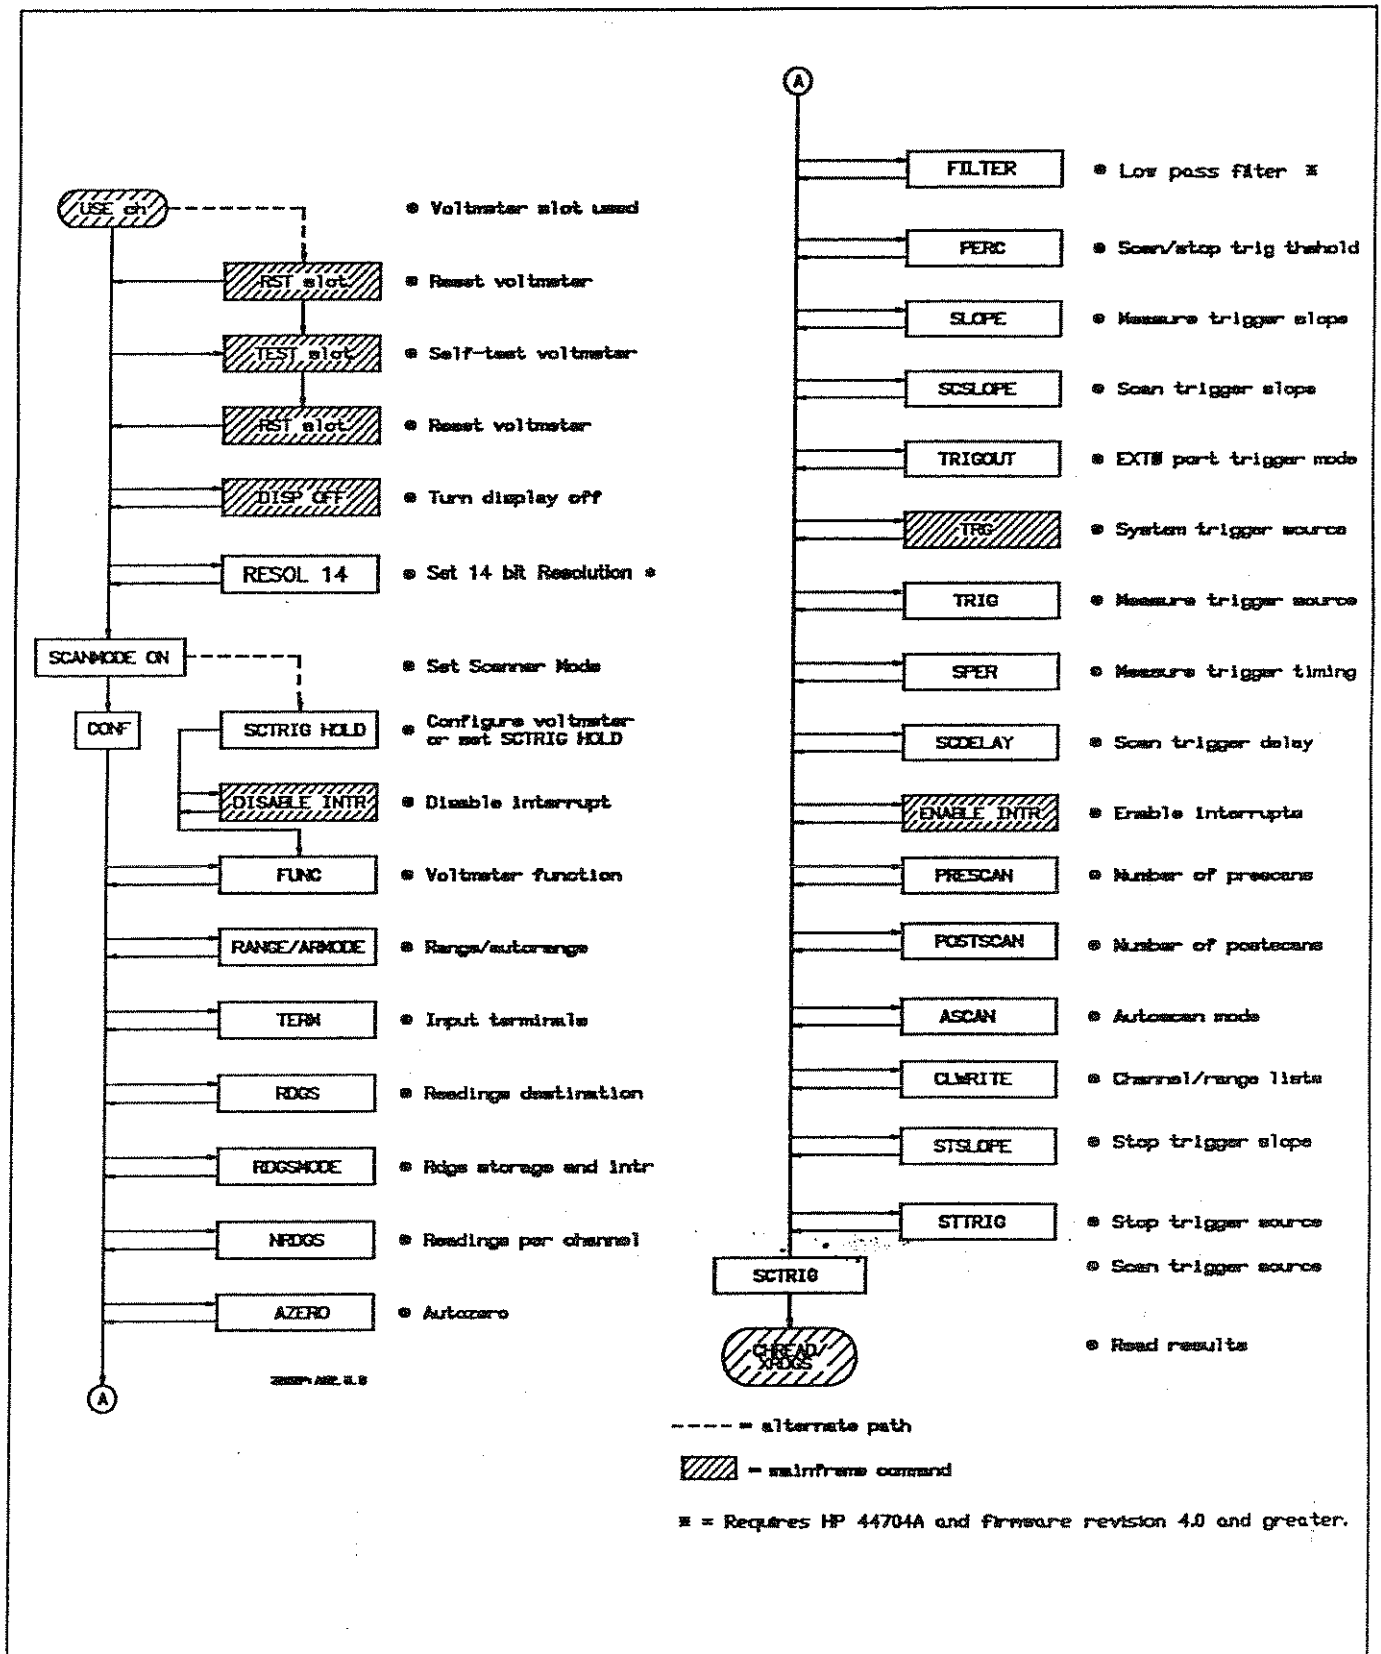

Figure 5-6. Low-Level Commands Programming Sequence
Then, refer to "Selecting Voltmeter Configuration", "Selecting Voltmeter Triggering" and/or to "Selecting Data Transfers/Interrupts" to select the specific parameters required for your measurement. When you have selected required parameters, program the voltmeter using the command sequence shown in Figure 5-6.
*For Scanner Mode ribbon cable operation using CONF, only the USE, SCANMODE ON, CONF, SCTRIG, and CHREAD or XRDGS commands are required to program the voltmeter. The other commands are optional and can be used as needed. Also, commands are not necessarily presented in the order shown in Figure 5-6. When using CONF and low-level commands, always program the voltmeter in the sequence shown in Figure 5-6.*
In this case, refer to "Selecting Voltmeter Configuration" to select the NRDGS parameter; to "Selecting Voltmeter Triggering" to select the SCTRIG parameter; and to "Selecting Data Transfers/Interrupts" to select the RDGSMODE parameter. Then, program the voltmeter using the command sequence in Figure 5-6.